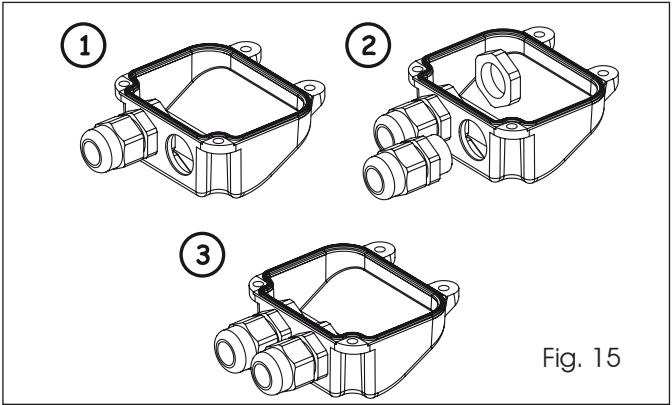

Fig. 15
- 1. Open the second pre-drilled hole in the cover, see Fig. 15.